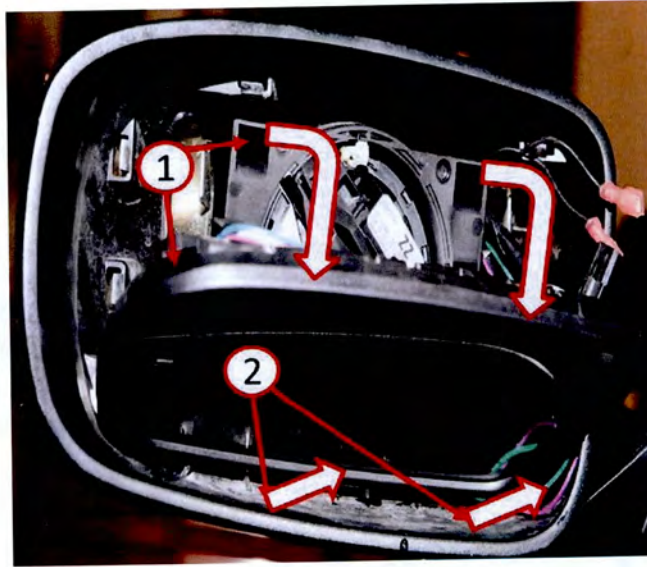

Fig. 2 Mirror Glass Case Removal
6. Remove the mirror glass case (1) from the glass motor by pulling up and out. This will disengage the "hook" feature at the bottom of the mirror glass case assembly (2) (Fig. 2).